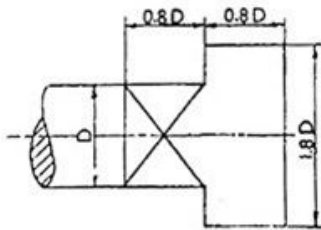

Figure 3
6. Write the sequence of commands on the command prompt to draw the figure 3 with the help of AutoCAD software. 20